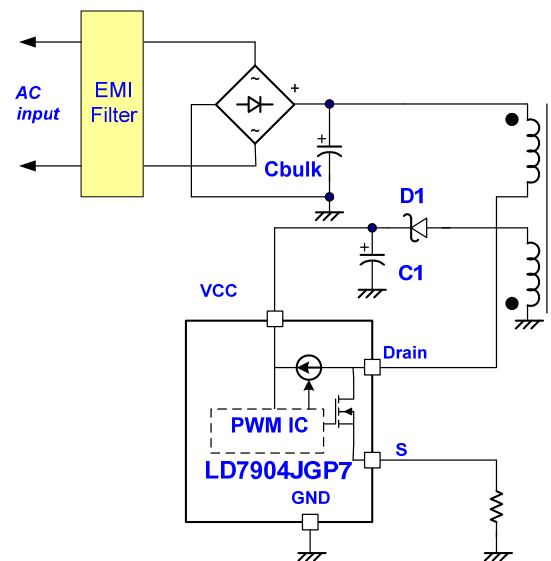

Fig. 13
As shown in Fig. 13, During startup, a high-voltage(HV) constant current source (~1mA) sinks current from the Drain pin to provide the PWM IC start current to and Vcc capacitor C1 charge current. In this period the PWM IC only sink 300uA thus most of the HV current is utilized to charge the Vcc capacitor. After the Vcc higher than UVLO(on) threshold, this HV current source will turn off and LD7904JGP7 is start to work then Vcc supply current is provide from the auxiliary winding of the transformer. Therefore, the power losses on the startup circuit can be eliminated and the power saving can be easily achieved.